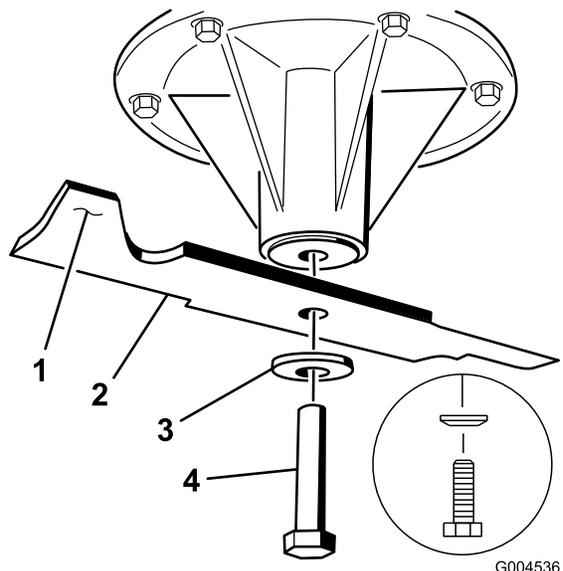

Figure 100
1. Install the blade onto the spindle shaft (Figure 100).
2. Install the spring disk and blade bolt (Figure 100).
**Note:** The spring-disk cone must be installed toward the bolt head (Figure 100).